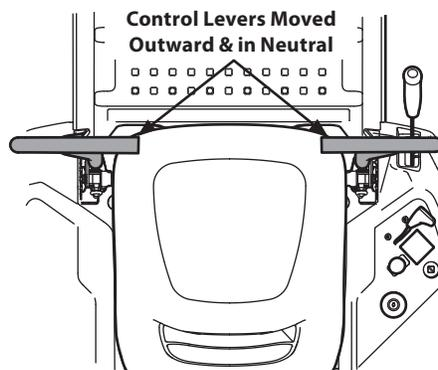

Figure 3-2
1. Operator must be sitting in the tractor seat with the drive control levers fully outward in neutral activating the parking brake. See Figure 3-2.